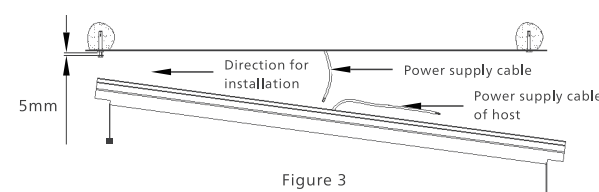

Figure 3
1. As shown in Figure 3, carefully hold the host and fix it with expansion screws and fasten nuts.